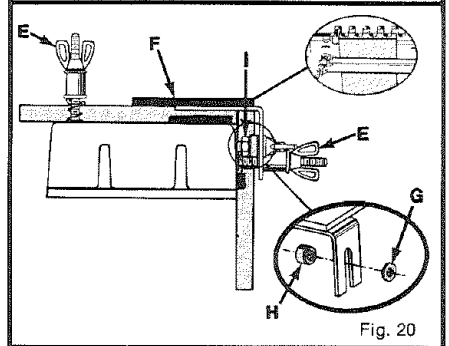

Fig. 20
The Set-Up for an Offset-Front drawer is done exactly the same as a set-up for a FLUSH FRONT DRAWER OR BOX, page 6, with one exception. The exception being where the angle brackets of the comb-shaped template are located on the dovetail base. See Figure 9. The angle brackets of the comb-shaped template go between spacers (G) and (H). See Figure 20. After making this change, follow the same set-up procedure described above. **NOTE:** This set-up is used for the drawer front only. The drawer back is cut the same as a flush front drawer.